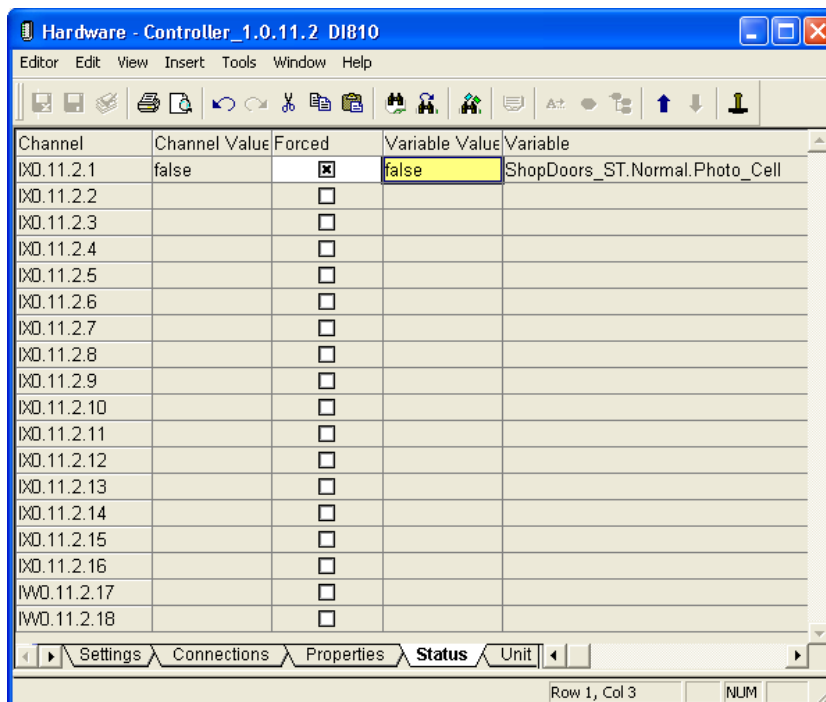
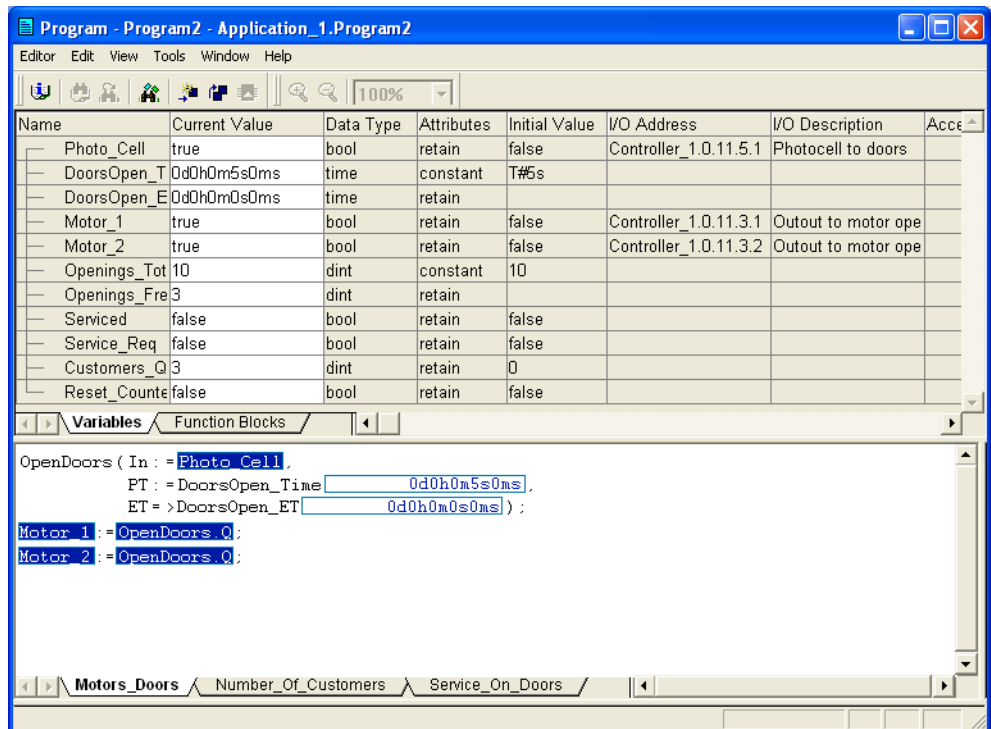

Figure 61. The status of the photocell and the motors can be forced in the I/O editor.
Figure 62. The changing motor values can be inspected in the online editor.
3. Check the box in the **Forced** column. Change the variable Photo\_Cell value to 1 (true), return quickly to 0 (false) and inspect the motor's values in the online editor (values will change to 1 for five seconds and then return to 0). Previously, you changed the variable Photo\_Cell values in the online editor for program **Program2** to start and stop the motors. Now, you are using the I/Os to control the motors (See Figure 61 and Figure 62).